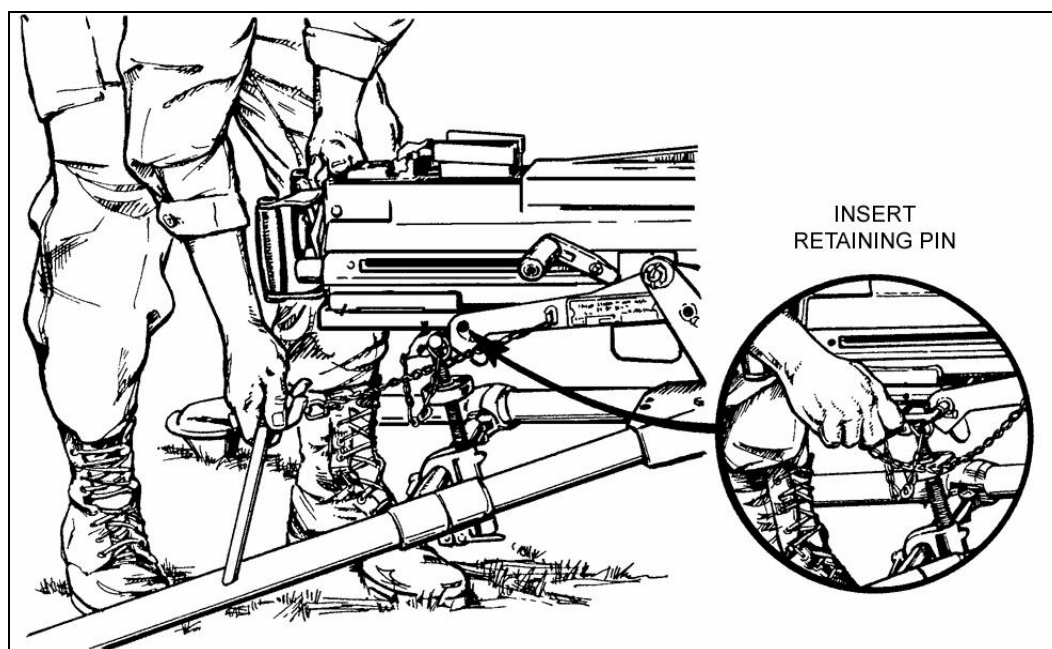

Figure H-7. Securing the MK 19 to the cradle.
(4) Secures the rear of the weapon by inserting the retaining pin through the cradle and sear assembly (Figure H-7).